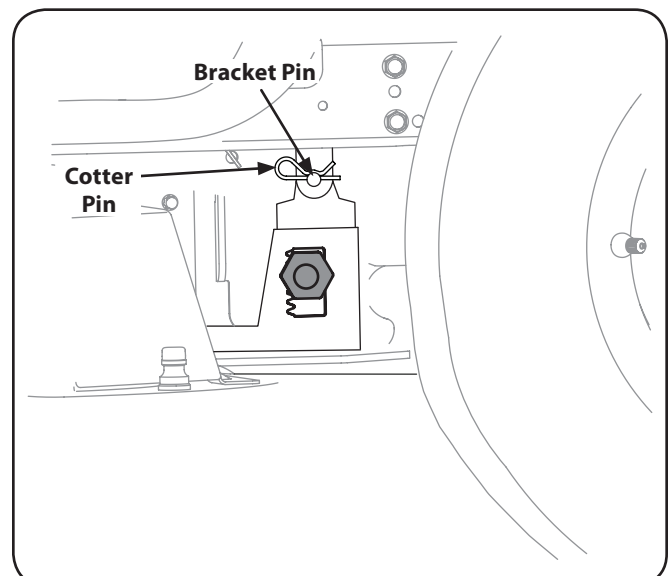

Figure 7-7 SECTION 7 — SERVICE
- Once the brackets are properly aligned, slide the pin on the deck lift adjustment bracket into the lift bracket and secure with cotter pins. See Fig. 7-7.